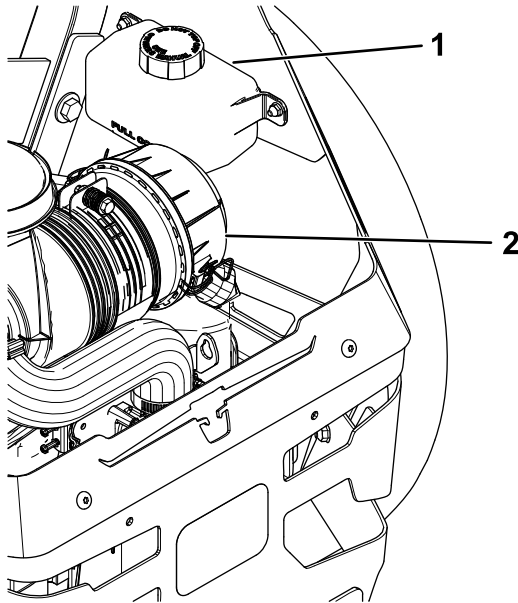

Figure 77
2. Check expansion reservoir and if necessary add Toro® HYPR-OIL™ 500 hydraulic fluid to the FULL COLD line (Figure 77).